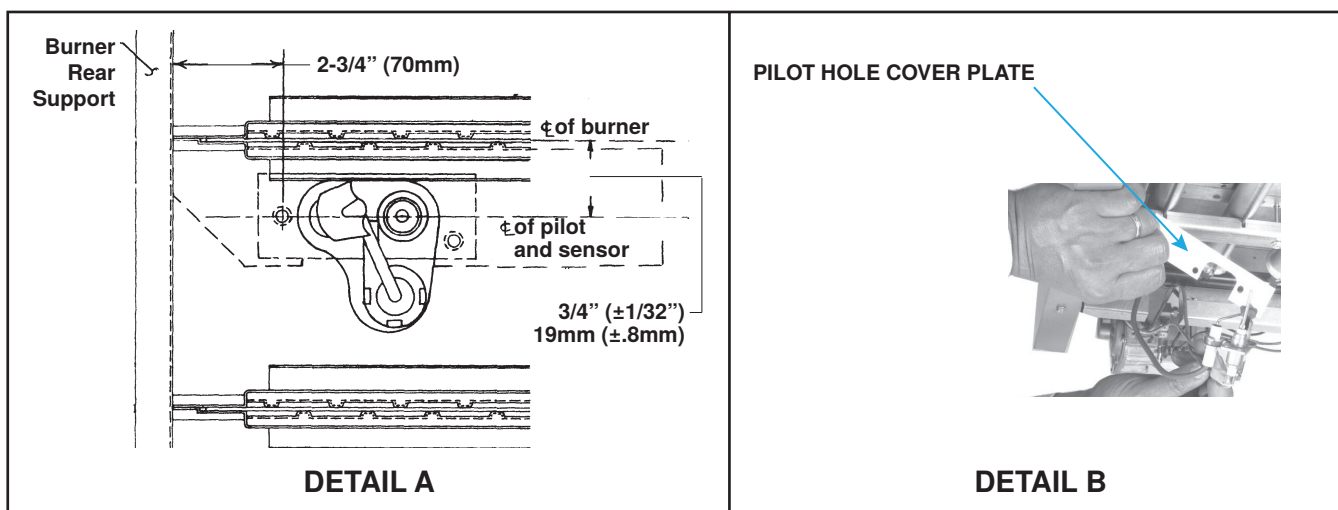

Figure 38. Pilot Location and Installation
- The pilot is located (see Figure 38, DETAIL A) under the aeration panel on the control end of the burner tray and is accessible only after the burner rack assembly has been removed.
- When re-installing a vertical spark pilot, be sure to include the pilot hole cover plate (see Figure 38, DETAIL B).